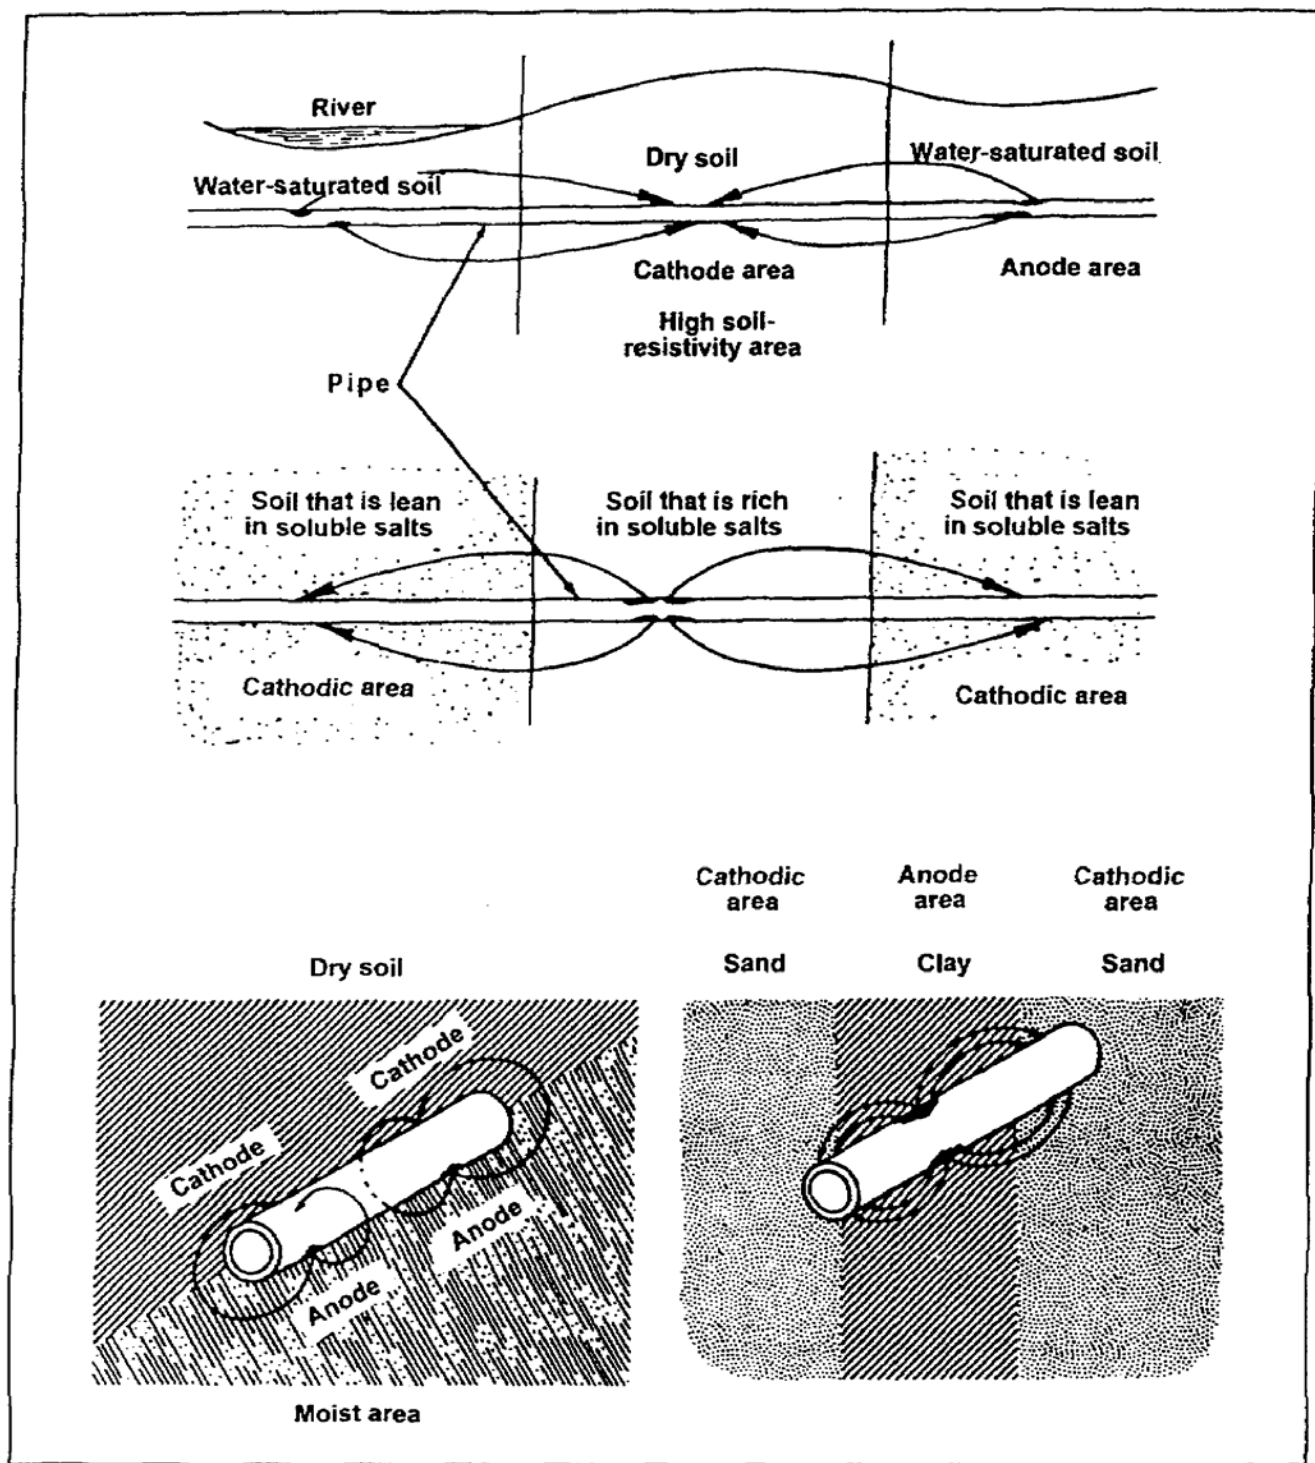

Figure 5-7. Differential-environmental corrosion
g. Concentration Cell (Differential Environmental). This corrosion occurs when several areas of a metal's surface are in contact with different concentrations of the same electrolyte. Corrosion results from a difference in the composition of the electrolyte and from the difference in the concentrations. Both conditions cause metal corrosion. An example of differential-environmental corrosion is shown in Figure 5-7.